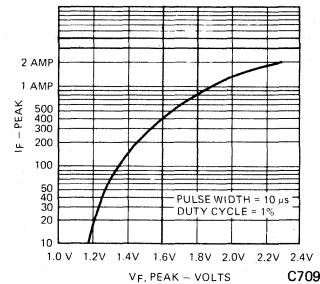

Fig. 3.  $I_F$  Peak Pulse Mode Characteristics
1. The curves in figure 3 are normalized to the power output at 25°C to indicate the relative efficiency over the operating temperature range.